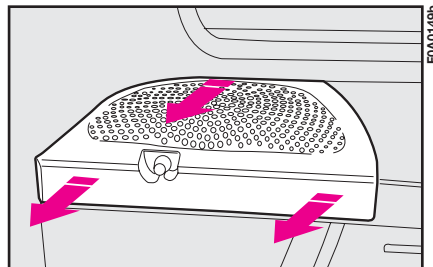
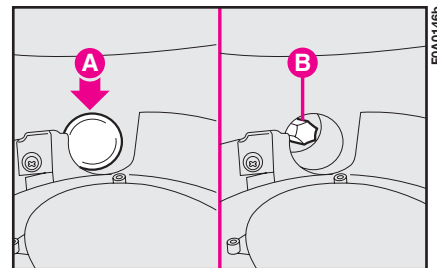

fig. 25
fig. 26
1) Working inside the vehicle: remove the plastic cover **fig. 25** set on the speaker seat fitting the screwdriver under the plastic and making it slide in parallel with the slot to spring the 2 front catches, pull the plastic cover parallel with the supporting surface to spring the rear catch and then remove the upper plastic cover **A**-fig. 26 using the screwdriver provided, in order to make visible the fastening bolt **B** of the light unit.